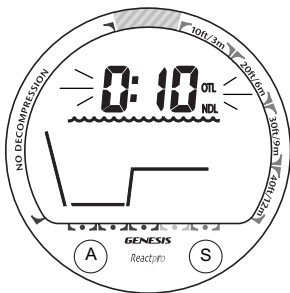

Fig. 21 - Set Reserve Time
- While viewing the Set 1 screen, press/release the A (left) button 8 times (< 2 sec each time), the Set Reserve Time Alarm screen appears with the Set Point flashing (Fig. 21).